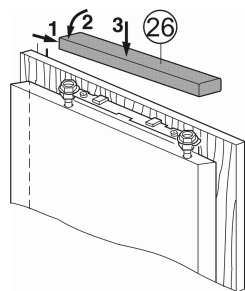

Fig. 24
- ▶ Position the upper cover *Fig. 24 (26)* and snap into place.